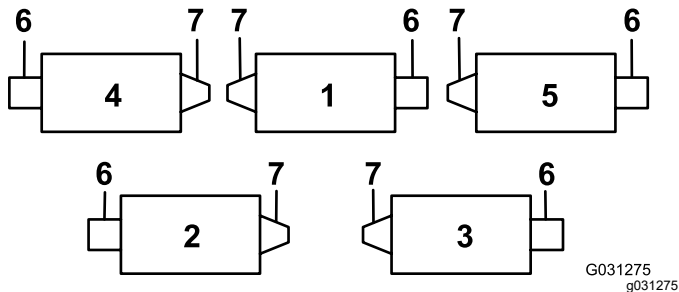

**Figure 11**
**Note:** The bolt head is to be positioned to the outer side of the tab as shown in Figure 11.
- E. Mount the rod bracket to the cutting unit tabs with the carriage bolts and nuts (Figure 11). On the cutting unit, mount the left hose guide to the front of the cutting unit tabs when reinstalling the rod bracket (Figure 13).